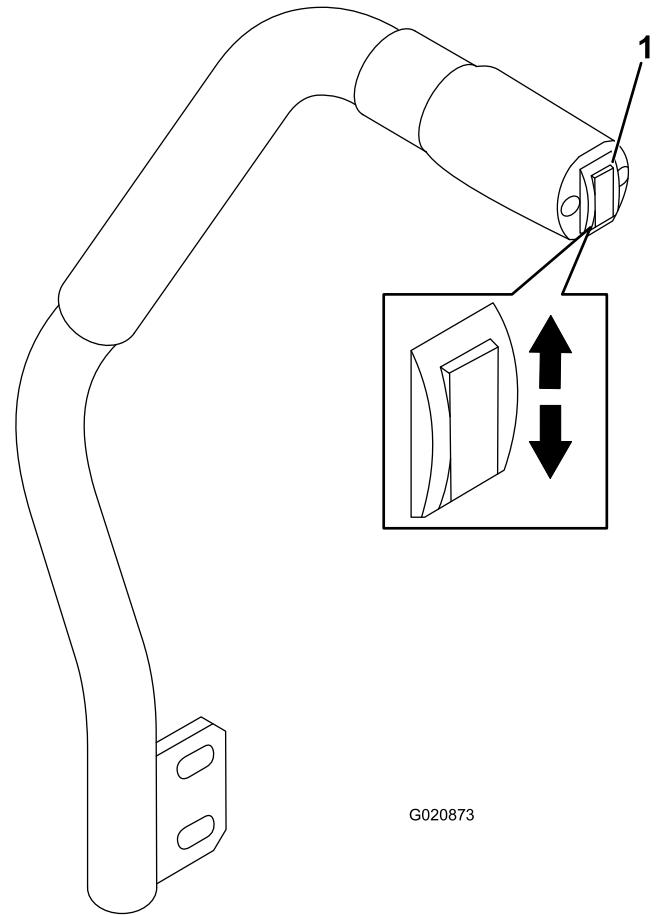

Figure 18
The deck-lift switch raises and lowers the mower deck (Figure 18). The engine must be running for you to use this lever.
- To lower the mower deck, push the deck-lift switch down (Figure 18).
- To raise the mower deck, push the deck-lift switch up (Figure 18).
1. With the engine running, push the deck-lift switch up until the mower deck is fully raised, and **release the switch immediately** (Figure 18).